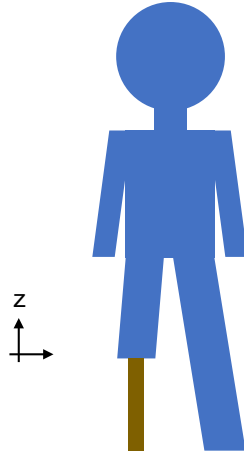

Figure 12: Illustration of the unfortunate soldier with his wooden leg.
- a) Your first design is to attach a simple wooden stick to his leg (see figure 12). He weighs $m_2 = 80$ kg but used to weigh $m_1 = 88$ kg before his injury. He is still $s = 1.75$ m tall. The diameter of the stick is $d = 2$ cm. Calculate the stress σ_z in the contact area between the leg and the stick.